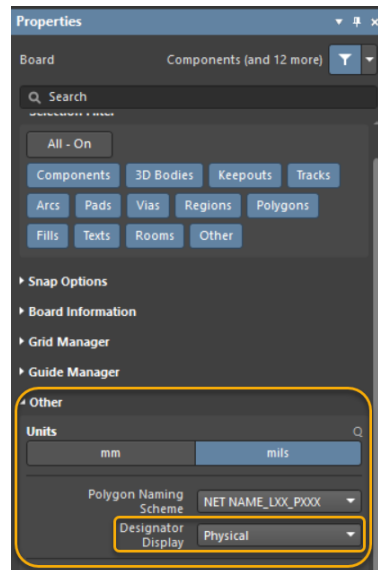

Figure 5. Select Physical Designator
20. Open the PCB document, `Mixer Placed.PcbDoc`. Once opened, view the *Properties* panel and under the *Other* section, ensure the *Designator Display* option is set to **Physical**, as shown in Figure 5.